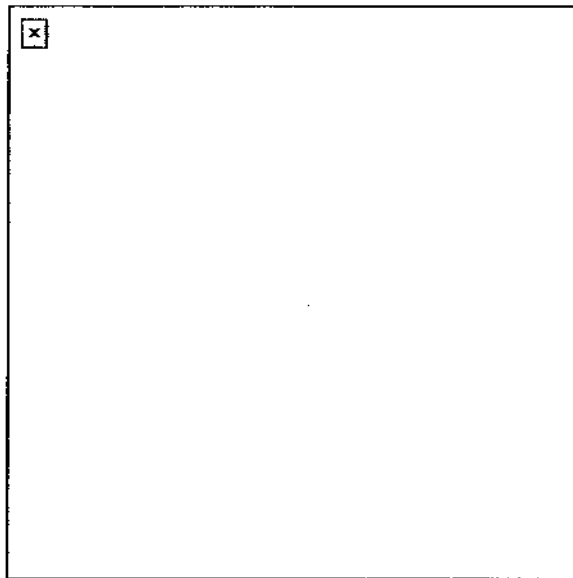

Figure 37. Use a single signal flag.
- c. Flags (Figures 37 through 43) are used to mark vehicle positions (for example, a quartering party member uses colored flags in an assembly area to mark positions), identify disabled vehicles, warn friendly elements of an advancing enemy (for example, an observation post uses a flag to signal a platoon to move to its fighting position), and control movement (flags serve as an extension of arm-and-hand signals when distances between vehicles become too great).